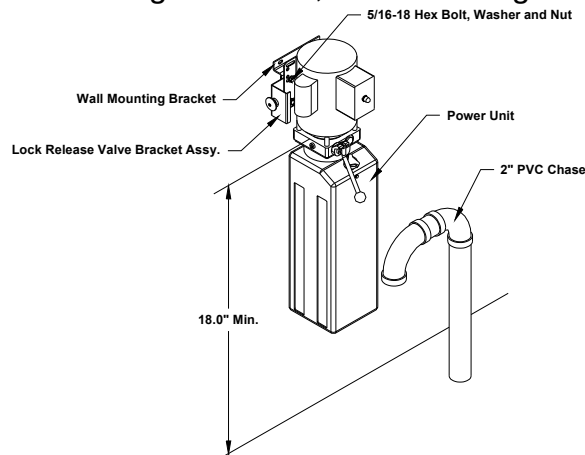

Fig. 5
5. Select the power unit location so that the driver or passenger side of the vehicle is within view. Operator should be in a position to notice any misalignment of the vehicle during the lifting operation. Run the 2" PVC chase from the control area and join to the lift / containment assembly using the coupling provided. Use a soap water solution to ease assembly. All PVC joints must be leak proof. The power unit end of the chase should be finished as shown in **Fig. 5** to prevent contamination from entering the chase, while allowing the system to breathe.
17. Install the power unit mounting bracket or floor pedestal using the anchors provided. **IMPORTANT:** The electric motor must be mounted at least 18 inches above the finished floor level as per National Electric Code NFPA70. Assemble the power unit and lock release valve bracket to wall mounting bracket or pedestal with 5/16-18 cap screws and nuts provided. Refer to **Fig. 5**.